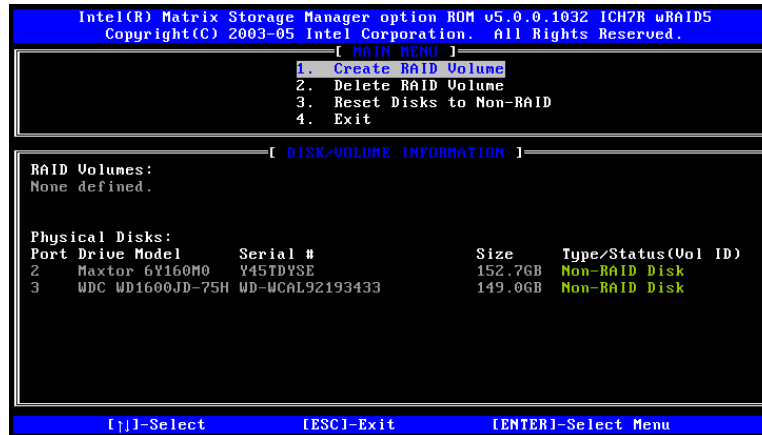

Figure E-1: Matrix Storage Manager Main Menu
Step 1: Select “Create RAID Volume.” Use the arrow keys to highlight **Create RAID Volume** and press **ENTER**. See Figure E-1.